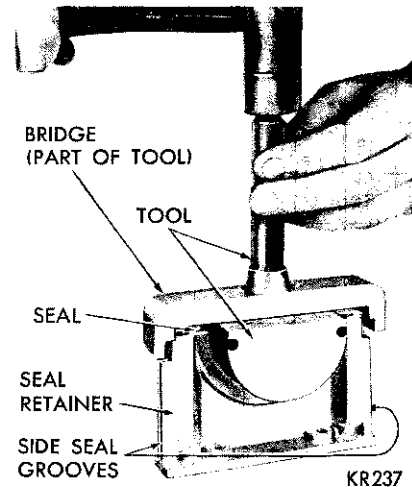
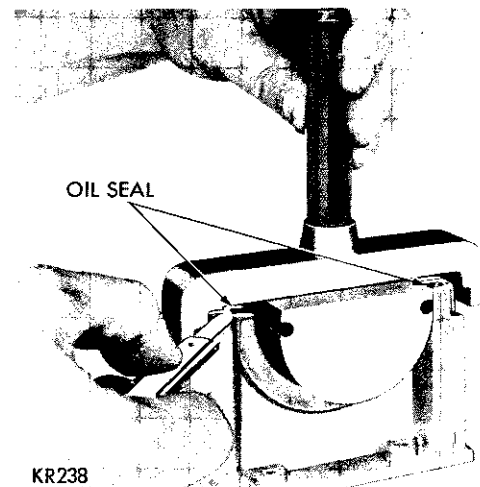

Fig. 48—Installing Rear Main Bearing Lower Oil Seal
Fig. 49—Trimming Rear Main Bearing Lower Oil Seal
(1) Install a new seal in the seal retainer so that the ends protrude (Fig. 48).
(2) Install the bridge on tool and tap the seal down into position with Tool C-3625 for 383 Cubic Inch Engines or Tool C-3743 for 413 Cubic Inch Engines until the tool is seated.
(3) Trim off that portion of the seal that protrudes above the cap (Fig. 49).